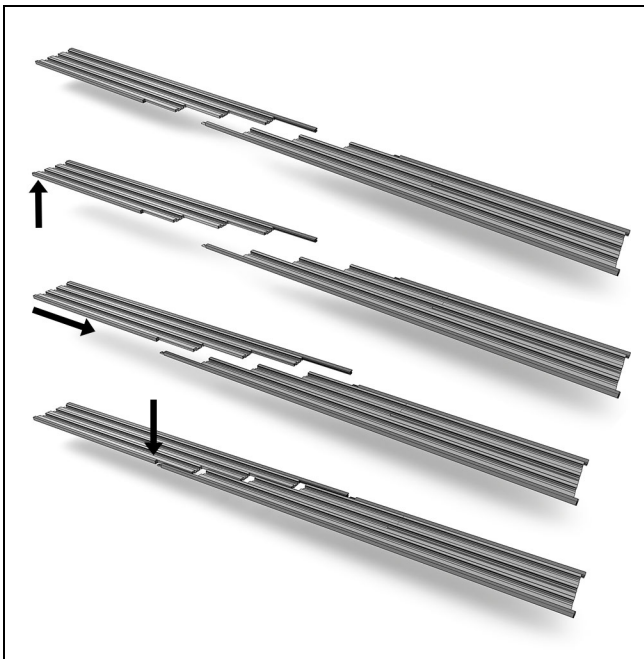

Figure 17
2. Lay the sill parts on a flat clean and protected surface with the splice sections lined up top side up. See Figure 17.